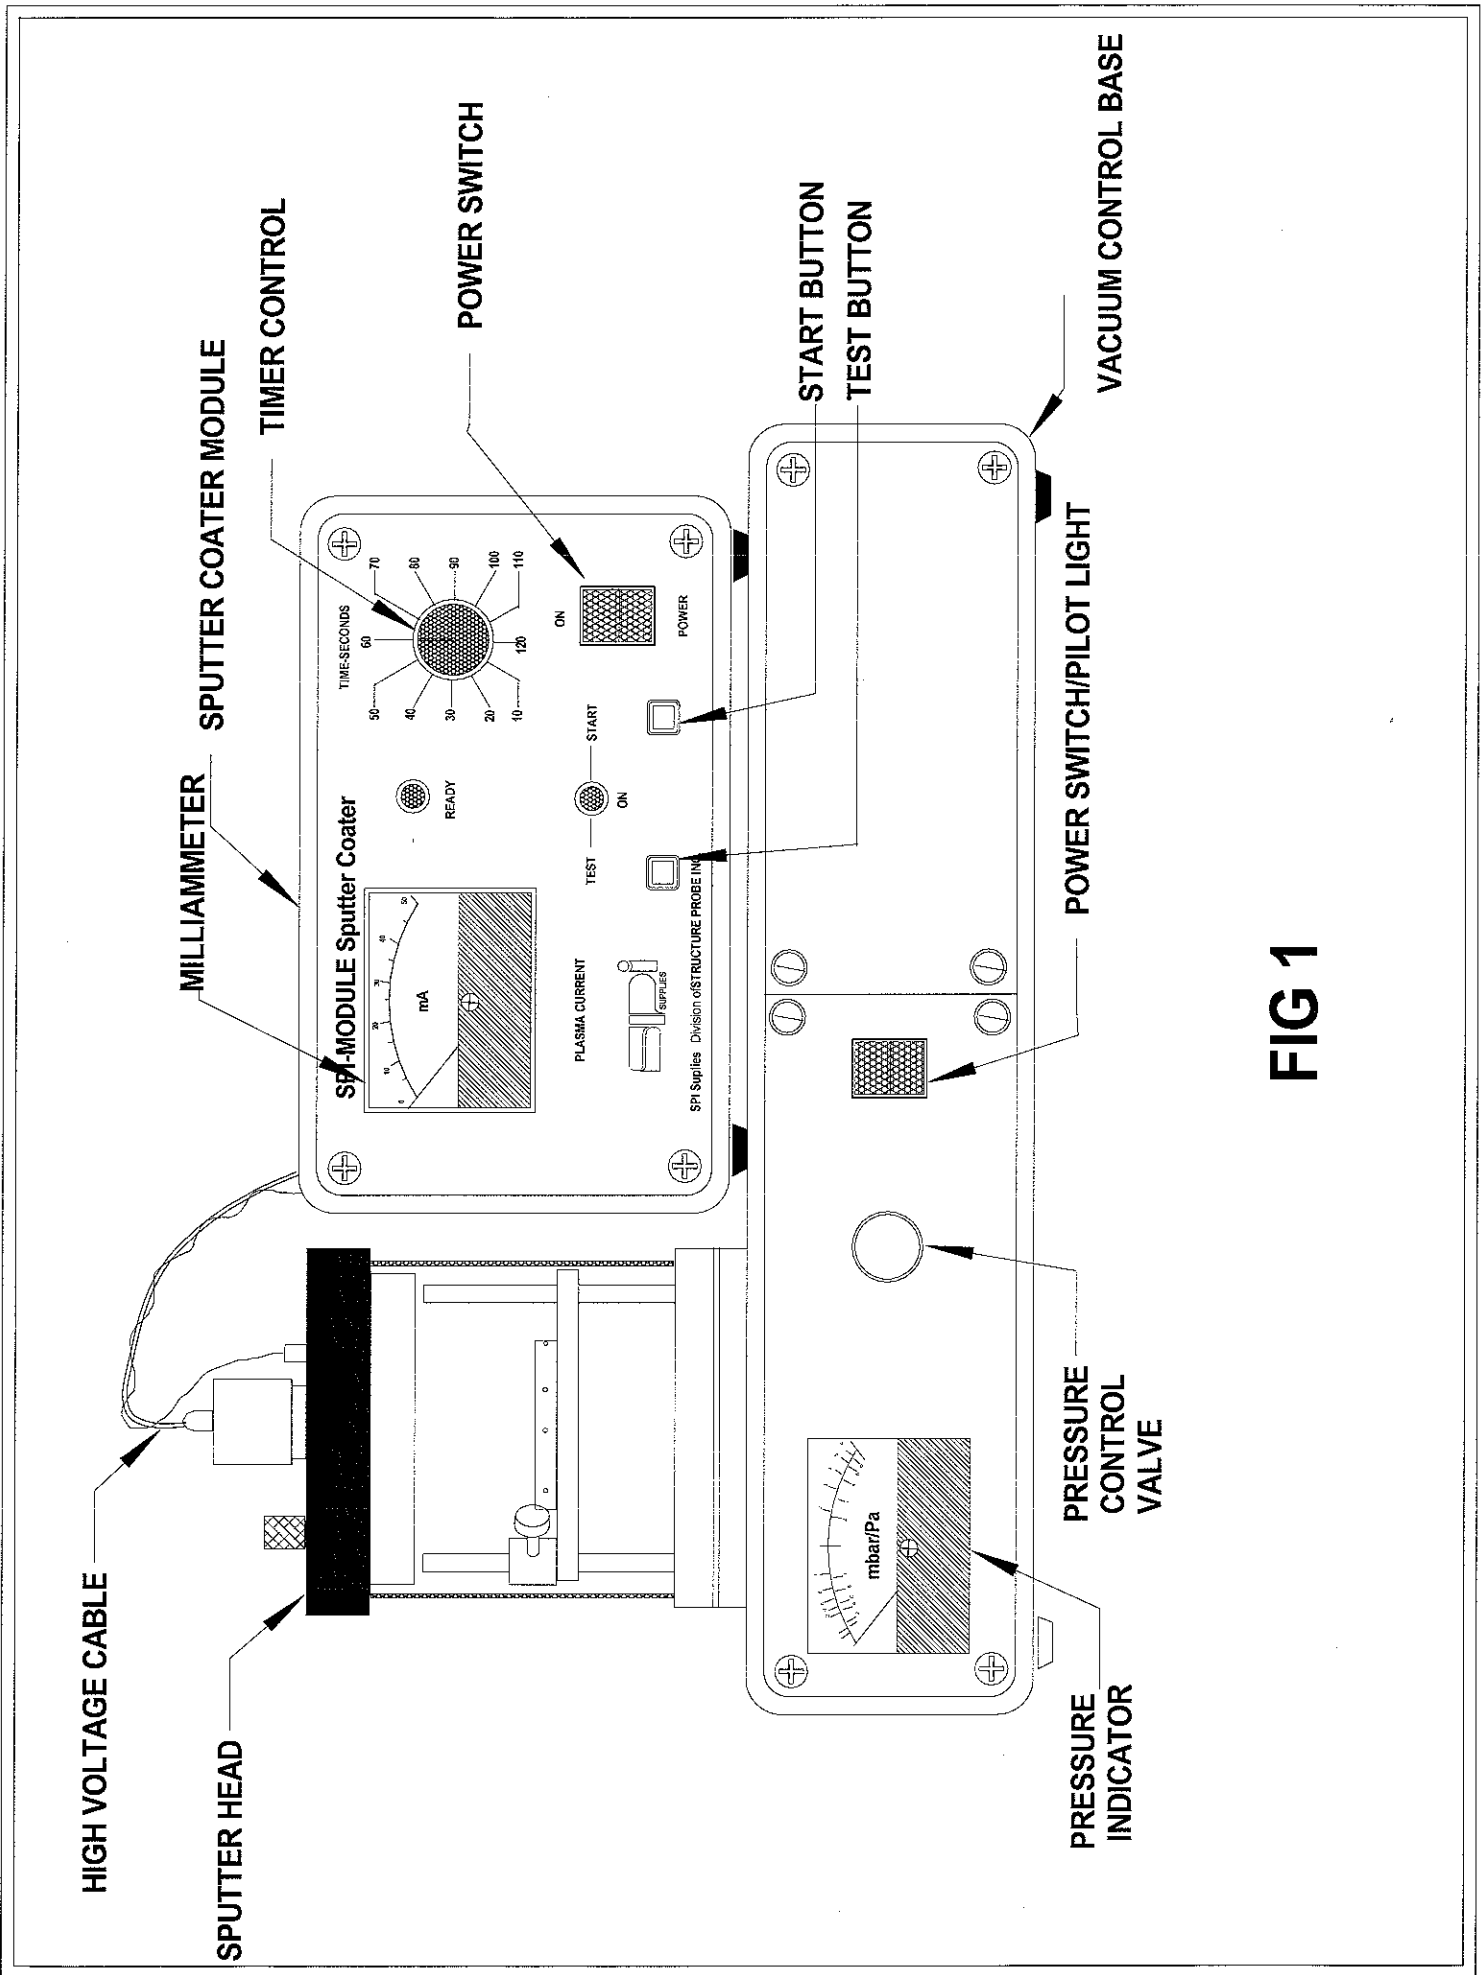

FIG 1
Unpack the SPI-SPUTTER COATER MODULE and place it on top of the right side of the SPI - VACUUM CONTROL BASE. Place the glass chamber on the base plate of the VACUUM CONTROL BASE it should fit snugly into the groove and seal against the "0" ring in the bottom of the groove. The sputter head is mounted on the top of the chamber in the groove and seal against the "0" ring in the groove refer to the illustrations figures 1&2. Connect the high voltage cable white connector to the central banana plug on the sputter head and the other end into the jack on the back of the SPI-SPUTTER COATER MODULE the green ground wire is inserted into the hole on the sputter head and goes to the green jack on the back of the SPI-SPUTTER COATER MODULE *. The SPI-SPUTTER COATER MODULE power cord is connected to the module power receptacle on the rear of the VACUUM CONTROL BASE.
- Figure 1 Front view of module on vacuum base